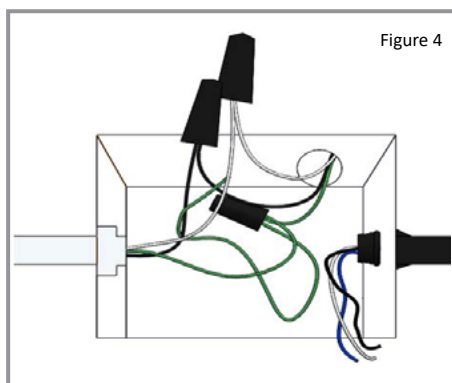

Figure 4
- Open junction box to unwire the thermal protector from the circuitry. Rewire the Line (black) and Neutral (white) using wire nuts (*Figure 4*)